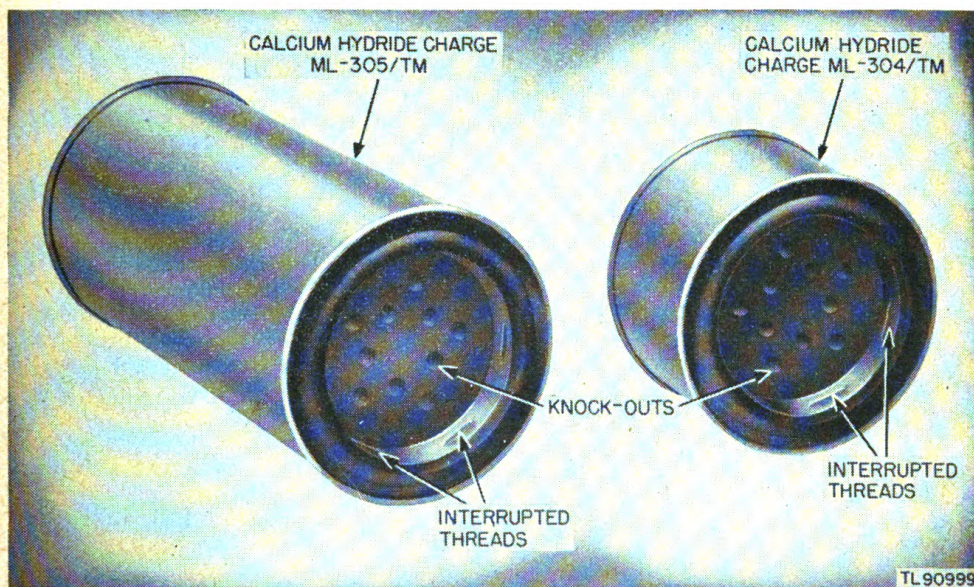

Figure 3. Calcium Hydride Charges ML-304/TM and ML-305/TM.
5. CALCIUM HYDRIDE CHARGE ML-305/TM (fig. 3). Calcium Hydride Charge ML-305/TM contains approximately $3\frac{3}{4}$ pounds of calcium hydride; this quantity generates 24 cubic feet of hydrogen for the inflation of a 100-gram balloon. The charge is sealed in an airtight metal can $3\frac{5}{8}$ inches in diameter by 8 inches high. In all other details, Calcium Hydride Charge ML-305/TM is identical with Calcium Hydride Charge ML-304/TM (par. 4).